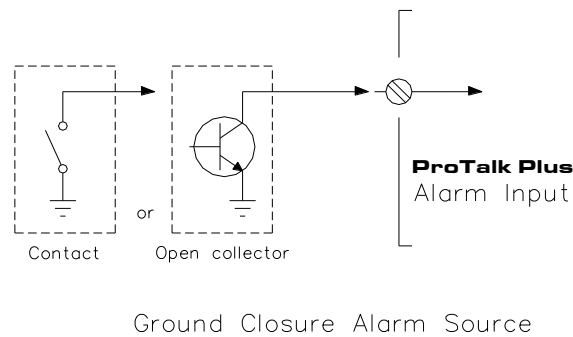

Figure 4 Alarm Input Connection
In its default condition, the B1290 looks for a normally open (NO) contact which closes to ground to indicate an alarm. The B1290 may also be programmed to accept inputs normally closed (NC) to ground which open on an alarm condition. To change this parameter, refer to the alarm format in I/O Configuration - Program Code 5. Ensure that all unused alarm points are either disabled or connected to ground when using NC contacts. Refer to Figure 4 for details on how to connect an alarm signal line.